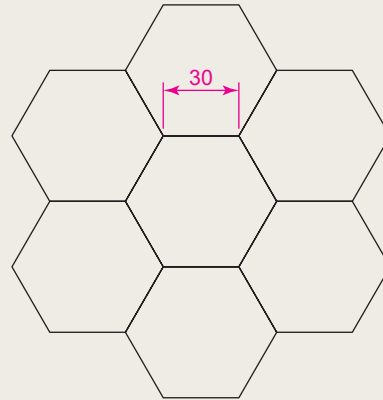

Fig. 3.51 Exercise 7
7. Fig. 3.51 shows seven hexagons with edges touching. Construct the inner hexagon using the **Polygon** tool, then with the aid of the **Edge** prompt of the tool, add the other six hexagons.